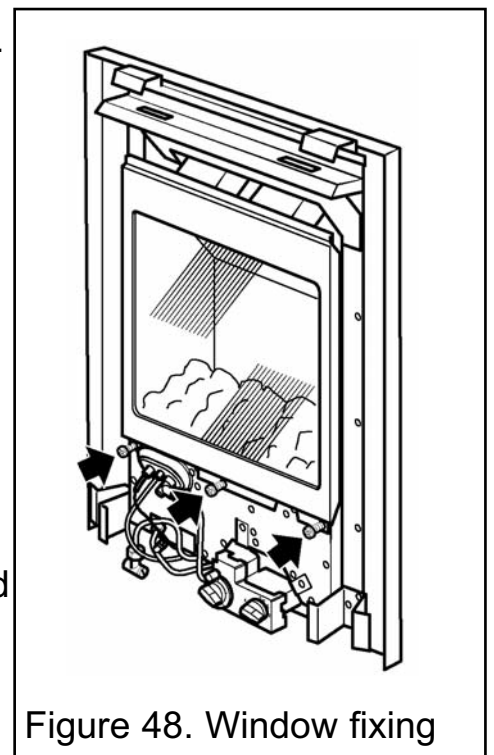

Figure 48. Window fixing
- Unscrew and remove the three spring-loaded window-fixing screws and bushes from the base of the window frame (See figure 48).